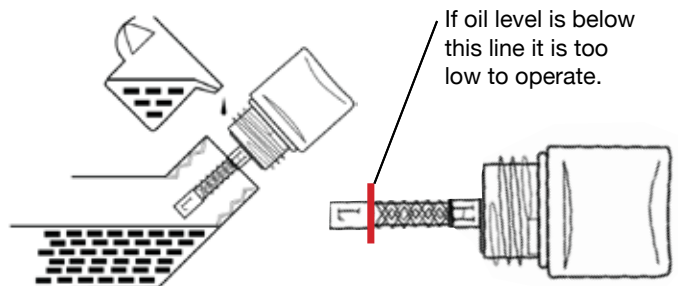

Figure 23 - Checking Oil Level
8. Continue to add oil until the oil is at the correct level (see Figure 23).